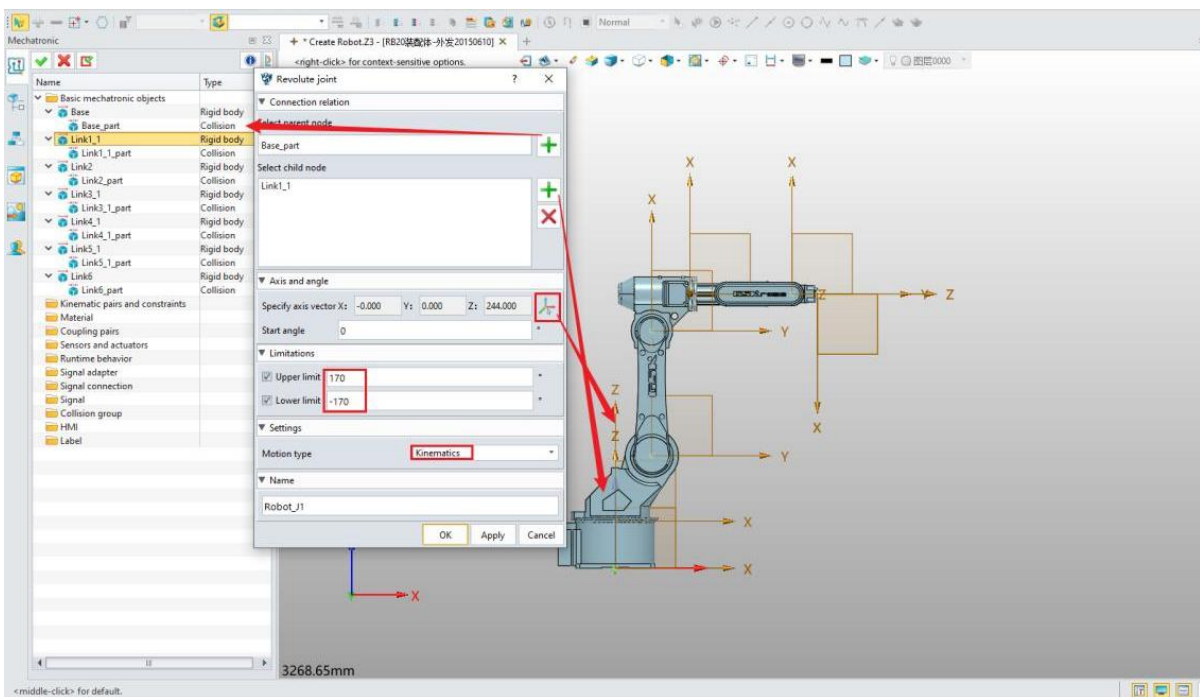

Figure 8-17: Robot_J1
- Create six revolute joints for each robot joint, specifying parameters for each. (Figure 8-17)